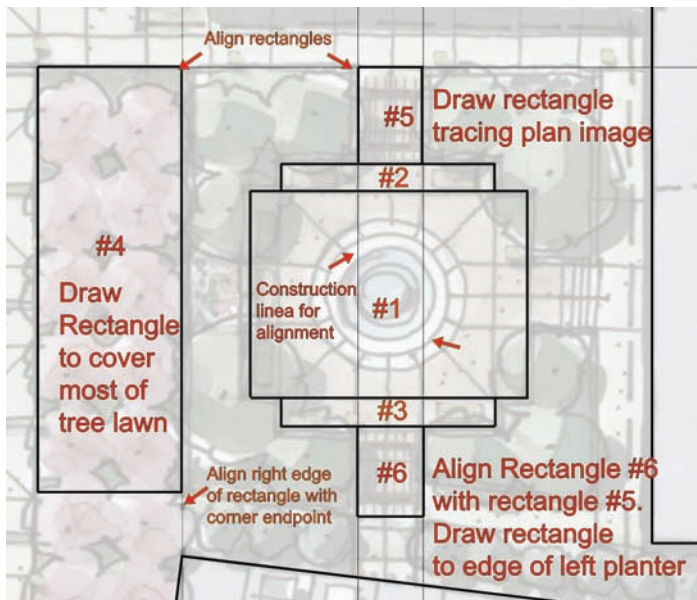

Fig. 7-12: Draw and align rectangles 4, 5, and 6 as indicated.
3. Draft Rectangle 4. Place Rectangle 4 over most of the tree lawn area (pink trees). Align the right edge of the rectangle with the corner endpoint of the perimeter edge (Fig. 7-12).
4. Draw Rectangle 5 over the indicated line work of the plan image. Align the top edge of the rectangle with the top edge of Rectangle 4 (Fig. 7-12).
5. Draw Rectangle 6; make sure to align the rectangle with the right and left edges of Rectangle 5. Use construction lines to guarantee the alignment. The bottom edge of Rectangle 6 should end at the left corner of the planter indicated on the plan image (Fig. 7-12).